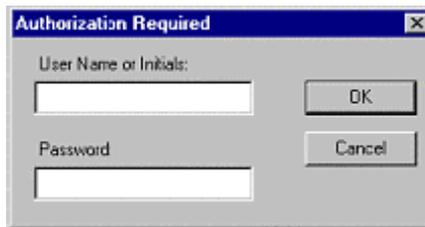

Figure 4. Authorization Required Dialogue Box
- (5) From the menu bar at the top of the window, select Maintenance | Calibration | Channel Calibration. The Authorization Required dialog box, Figure 4, will appear.